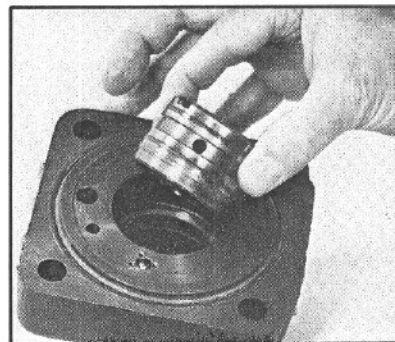

Figure 56
- 22. Remove the valve sleeve (15) from the valve housing (9) (FIG. 56).